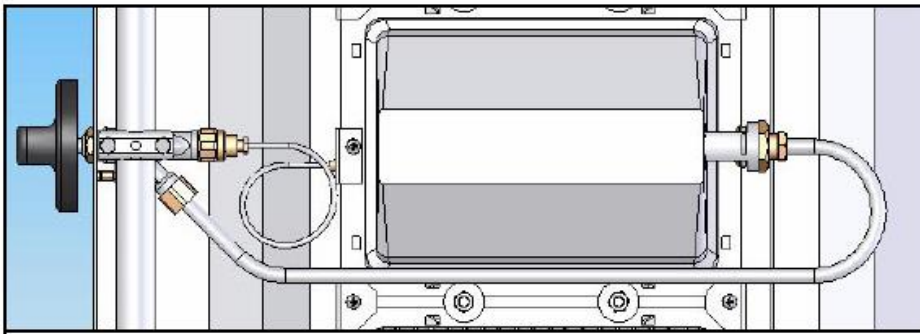

Figure 1
- Similarly, fix Gas Supply Pipe in its place (Figure 1).
- Similarly, Fix On-Off knob in its place (Figure 1).